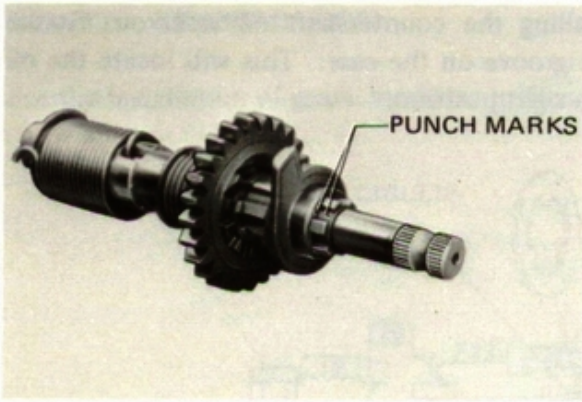

Fig. 7-3-18 Positioning ratchet wheel
- 1) Install the ratchet wheel over the kick starter shaft so that the two punch marks align as shown in Fig. 7-3-18.